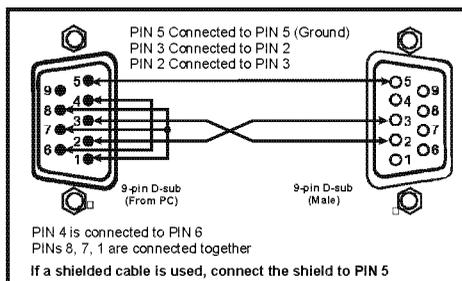

Figure 4: Connecting a PC without using a Null-modem Adapter
- Connect the RS-232 9-pin D-sub port on your PC to the RS-232 9-pin D-sub rear panel port on the **VS-81HDxl** unit, as Figure 4 illustrates